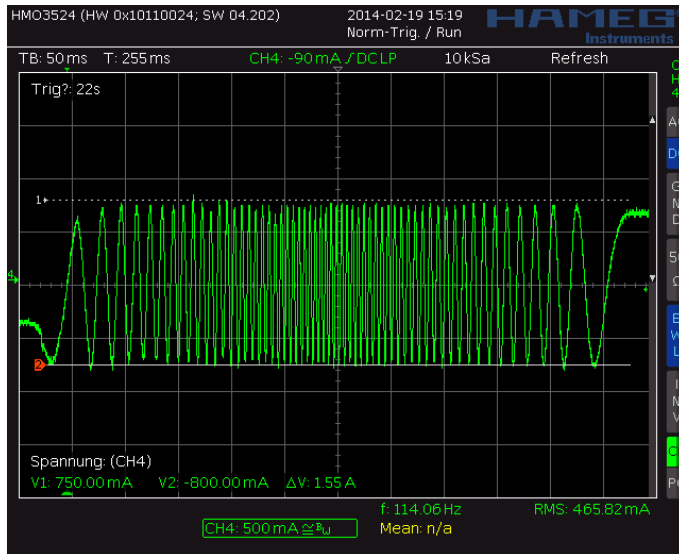
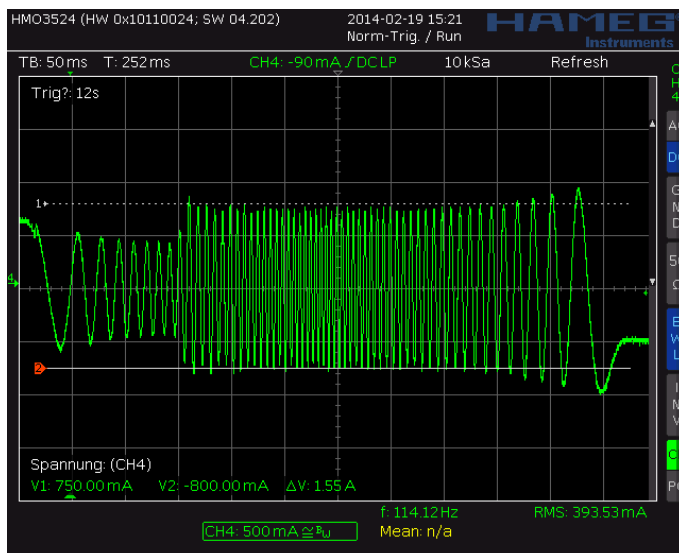
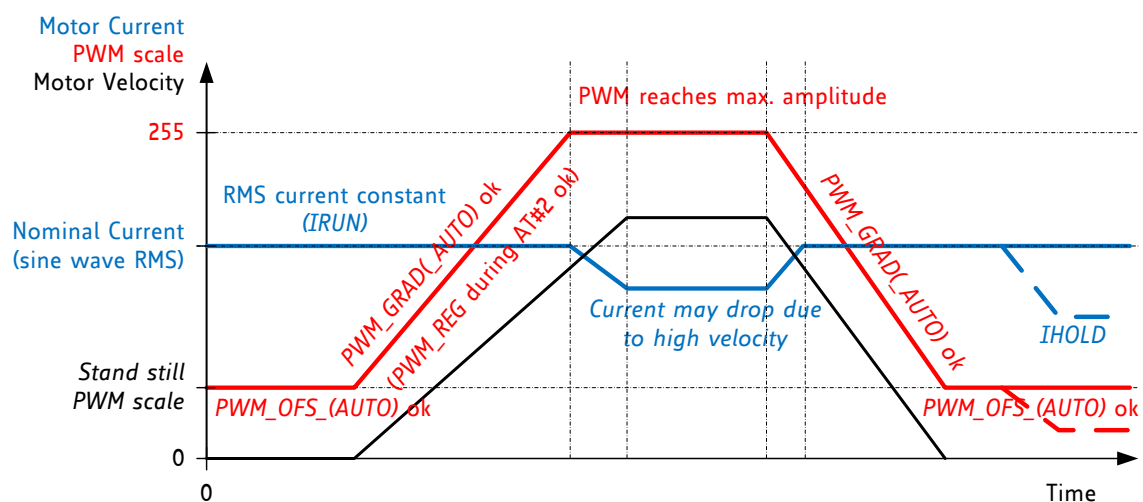

Figure 6.3 Scope shot: good setting for PWM_REG
Figure 6.4 Scope shot: too small setting for PWM_REG during AT#2
Figure 6.5 Successfully determined PWM_GRAD(_AUTO) and PWM_OFS(_AUTO)
In StealthChop voltage PWM mode, the autoscaling function (*pwm_autoscale* = 1, *pwm_autograd* = 1) regulates the motor current to the desired current setting. Automatic scaling is used as part of the automatic tuning process (AT), and for subsequent tracking of changes within the motor parameters. The driver measures the motor current during the chopper on time and uses a proportional regulator to regulate *PWM_SCALE_AUTO* in order match the motor current to the target current. *PWM_REG* is the proportionality coefficient for this regulator. Basically, the proportionality coefficient should be as small as possible in order to get a stable and soft regulation behavior, but it must be large enough to allow the driver to quickly react to changes caused by variation of the motor target current (e.g. change of *VREF*). During initial tuning step AT#2, *PWM_REG* also compensates for the change of motor velocity. Therefore, a high acceleration during AT#2 will require a higher setting of *PWM_REG*. With careful selection of homing velocity and acceleration, a minimum setting of the regulation gradient often is sufficient (*PWM_REG*=1). *PWM_REG* setting should be optimized for the fastest required acceleration and deceleration ramp (compare Figure 6.3 and Figure 6.4). The quality of the setting *PWM_REG* in phase AT#2 and the finished automatic tuning procedure (or non-automatic settings for *PWM_OFS* and *PWM_GRAD*) can be examined when monitoring motor current during an acceleration phase Figure 6.5.